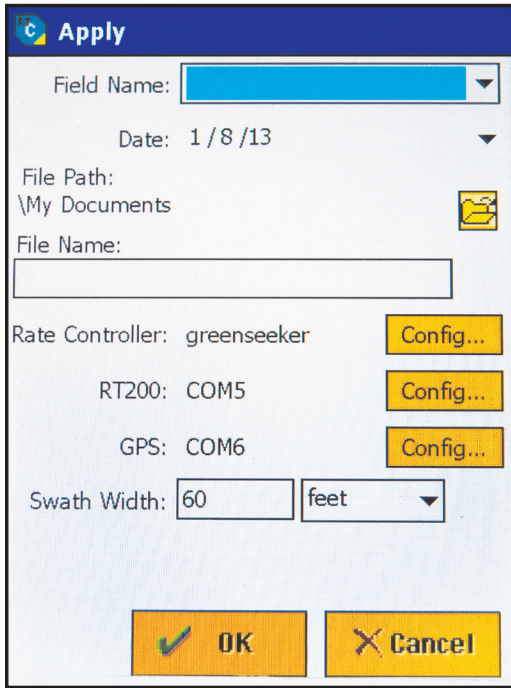

Figure 1. Initial screen when turning on GreenSeeker computer.
1. The first screen seen after selecting “New Application Job” is depicted in figure 1. On this screen, the operator has the option to name the current field, configure any necessary computer ports (this is necessary at installation and not usually altered thereafter), and set the sprayer/spreader swath width. Save the new settings on this screen by hitting “OK.”